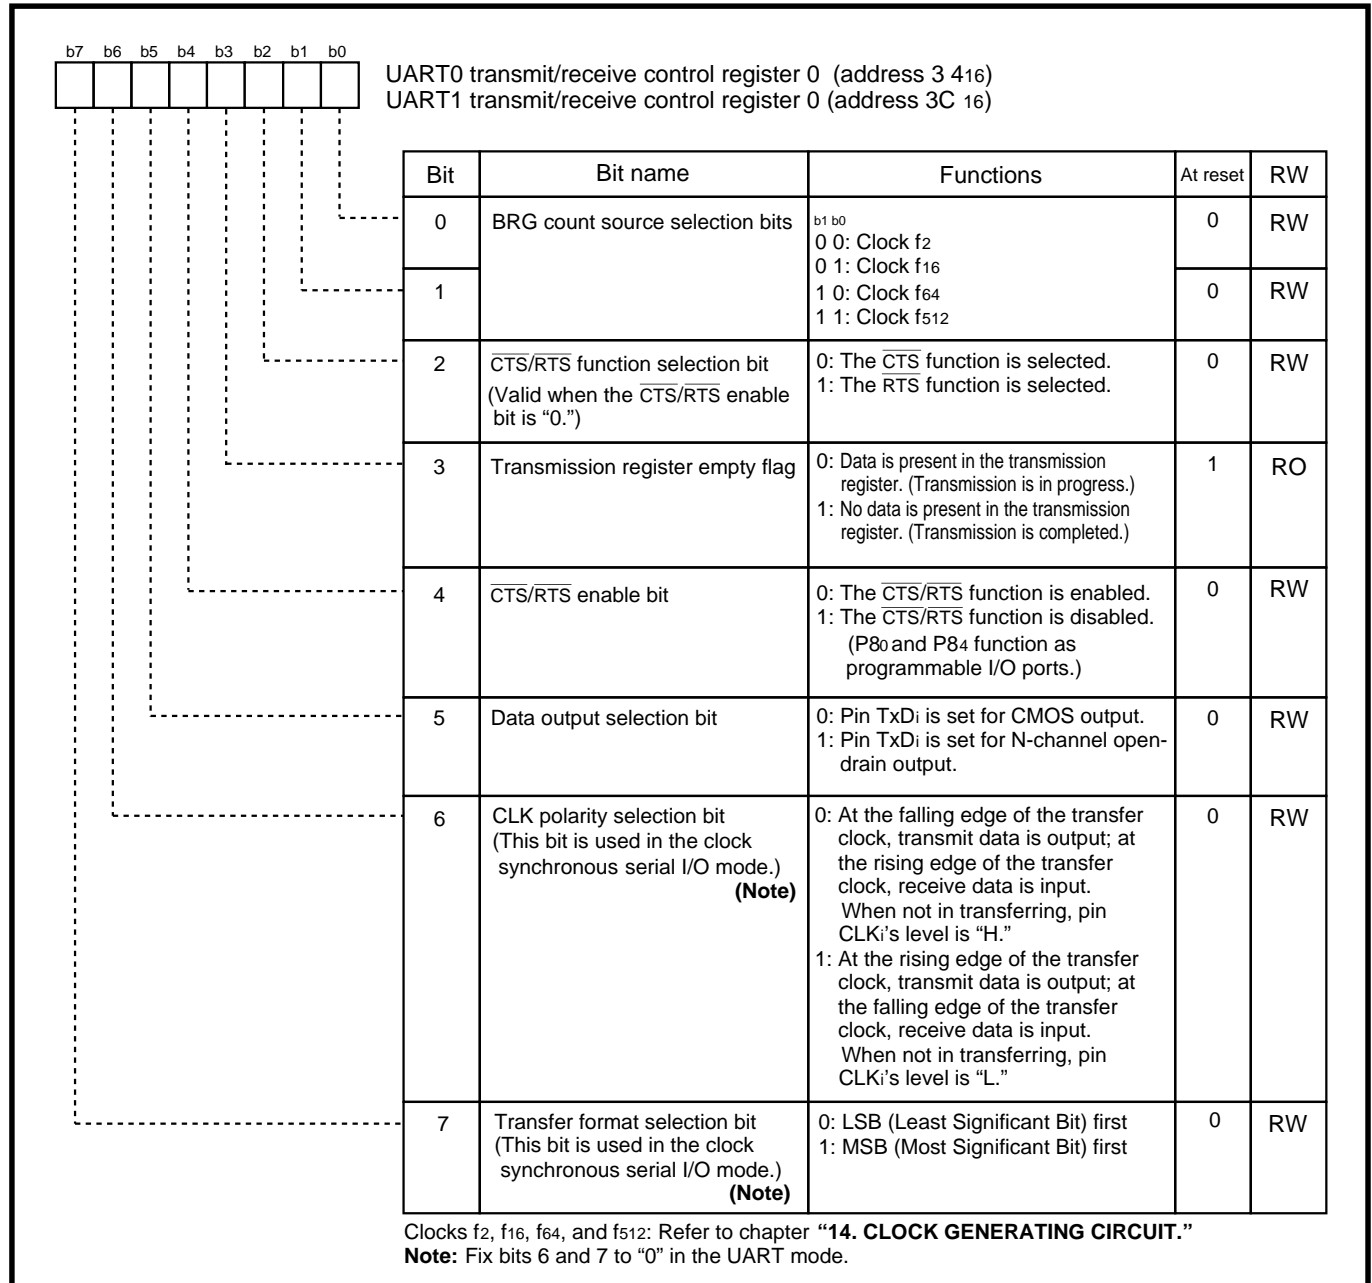

Fig. 8.2.4 Structure of UARTi transmit/receive control register 0 (1)
Figures 8.2.4 and 8.2.5 show the structure of UARTi transmit/receive control register 0. For bits 1 and 0, refer to section “(1) Internal/External clock selection bit” in page 8-7. For bits 7 to 4, refer to the description of each operating mode.